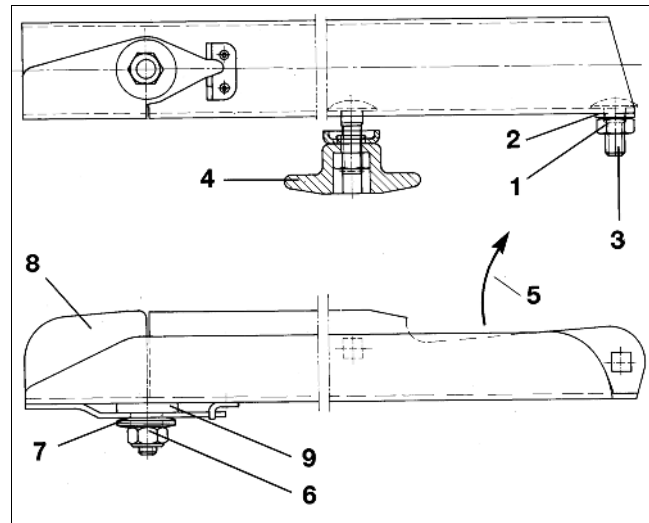

Fig. 54
- Slacken self-locking nut (Fig. 54/1).
- Remove washer (Fig. 54/2) and flat mushroom head bolt (Fig. 54/3).
- Slacken hexagonal bolt (Fig. 54/4) and exchange spreading vanes.
- Tighten the self locking nut (Fig. 54/1) in such a way, that the spreading vane can be swivelled by hand.
Note the correct fitting of the spreading vanes. The open side of the U-shaped spreading vane shows into sense of rotation (Fig. 54/5).
- Slacken self locking nut (Fig. 54/6) and remove together with spring washers (Fig. 54/7).
- Exchange swivel blades (Fig. 54/8).
- Tighten self locking nut (Fig. 54/6) with a torque of **6 - 7 Nm**, so that the swivel blade can still be swivelled upwards by hand, however does not swivel up by itself during operation.
Mind plastic washer (Fig. 54/9) between spreading vane and swivel blade.